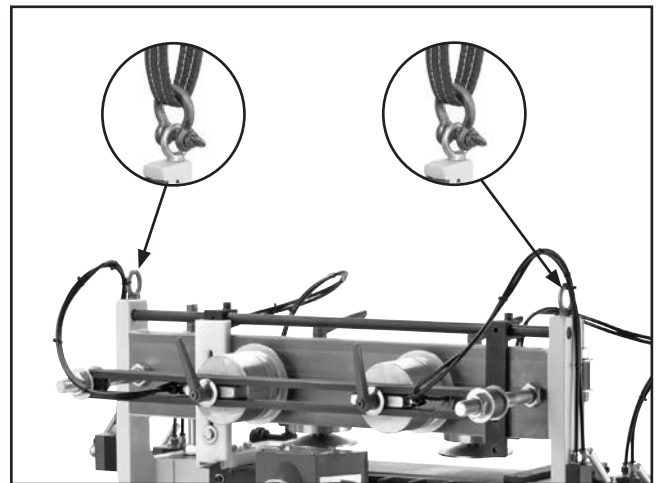

Figure 7. Lifting machine from eyes.
2. Connect the lifting straps to the eye bolts using shackles, as shown in **Figure 7**.